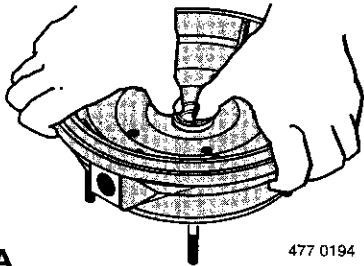
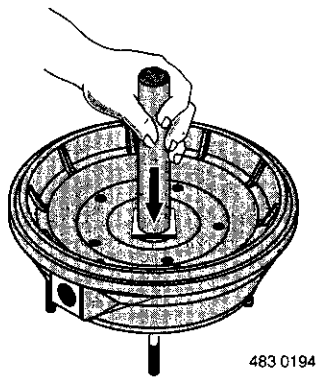

Figure 12A
Figure 12B
C. With finger pressure press seat firmly and squarely into cavity. See Figure 12A. Polished face of seat faces inside of pump. If seat will not locate properly, place cardboard washer over polished face and use piece of 3/4" standard pipe for pressing purposes. See Figure 12B.